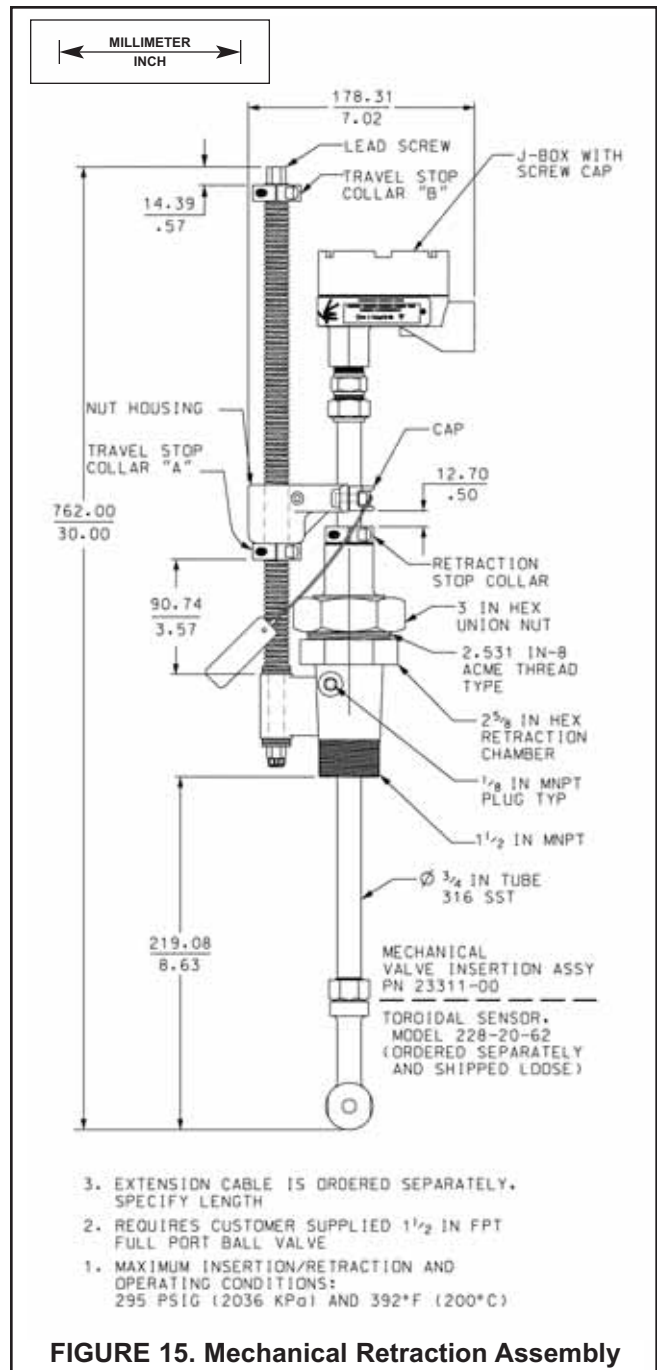

FIGURE 15. Mechanical Retraction Assembly
1. Thread the sensor cable through the tube into the junction box. Screw the sensor into the tube. Hand tighten the sensor an additional half turn once the gasket is seated. See Figure 15.
19. (Mechanical) Lock the retraction stop collar into position (see Figure 15 or previously marked position for proper location).
21. (Mechanical) Install the nut housing cap (see Figure 15 or previously marked position for proper location).